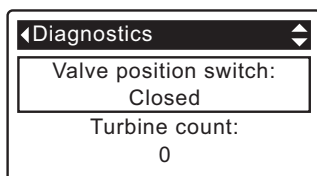

FIG. 95
2. Press the DOWN (▼) button to scroll through the list until **Valve position switch** is displayed (See Figure 95).